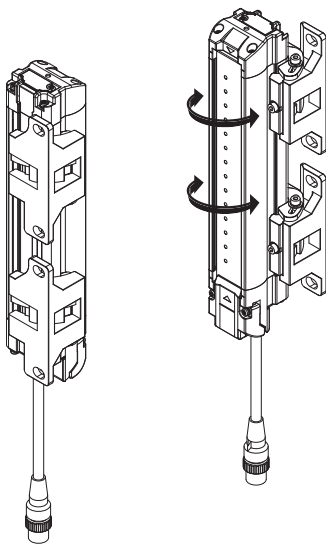
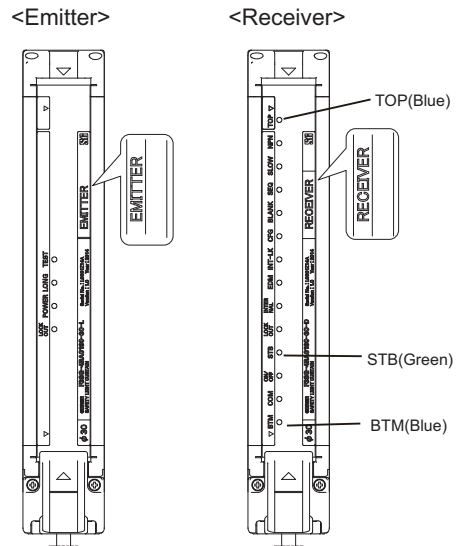

Fig. 5
Fig. 6
Move the emitter from side to side (Fig. 5) to align it to a center position where the Stable-state indicator (STB, green) of the receiver is illuminated while checking the state of the top and bottom beams with the Top-beam-state indicator (TOP, blue) and Bottom-beam-state indicator (BTM, blue) of the receiver. (Fig. 6)
5. Securely tighten the Screw (1) to fix the Top/Bottom Adjustable Bracket to the housing of the F3SG-R. The recommended torque to tighten the Screw (1) is 3.0 N•m. (Fig. 6)